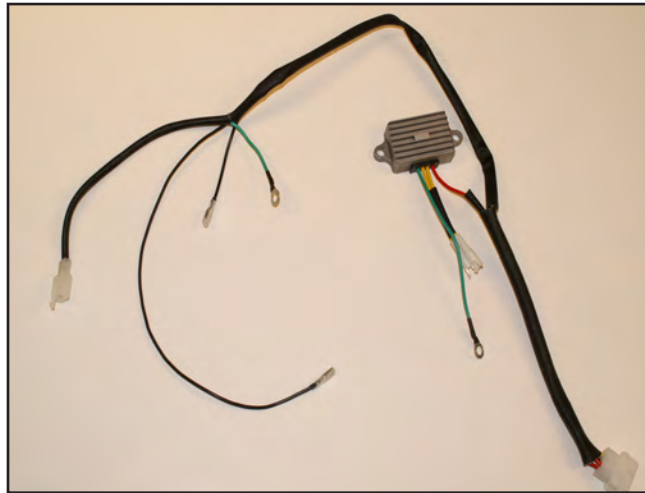

Figure 25
**NOTE:** The voltage regulator contains the engine wire harness and is mounted to the dipstick tube (Figure 25).